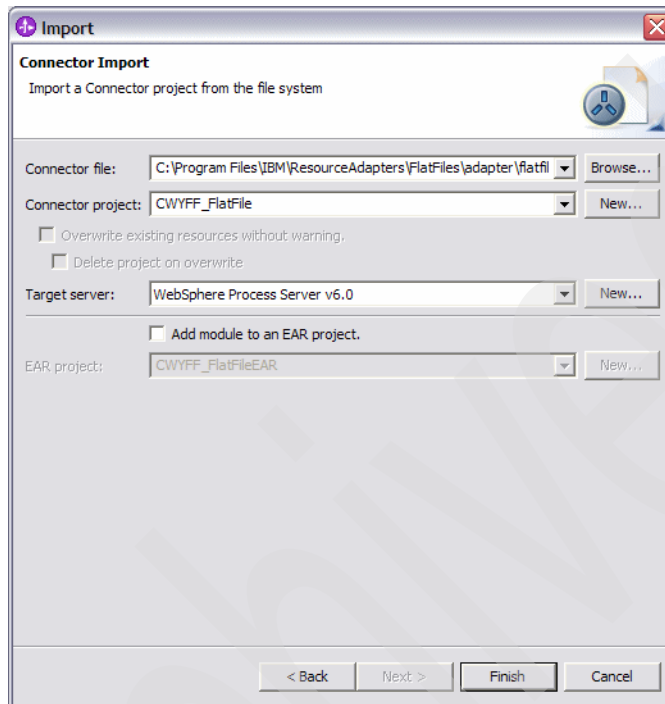

Figure 2-2 Browse for RAR file
3. Browse for where you have stored the Adapter RAR file (Figure 2-2). (The connector project name will be inserted automatically once the RAR file is selected.)